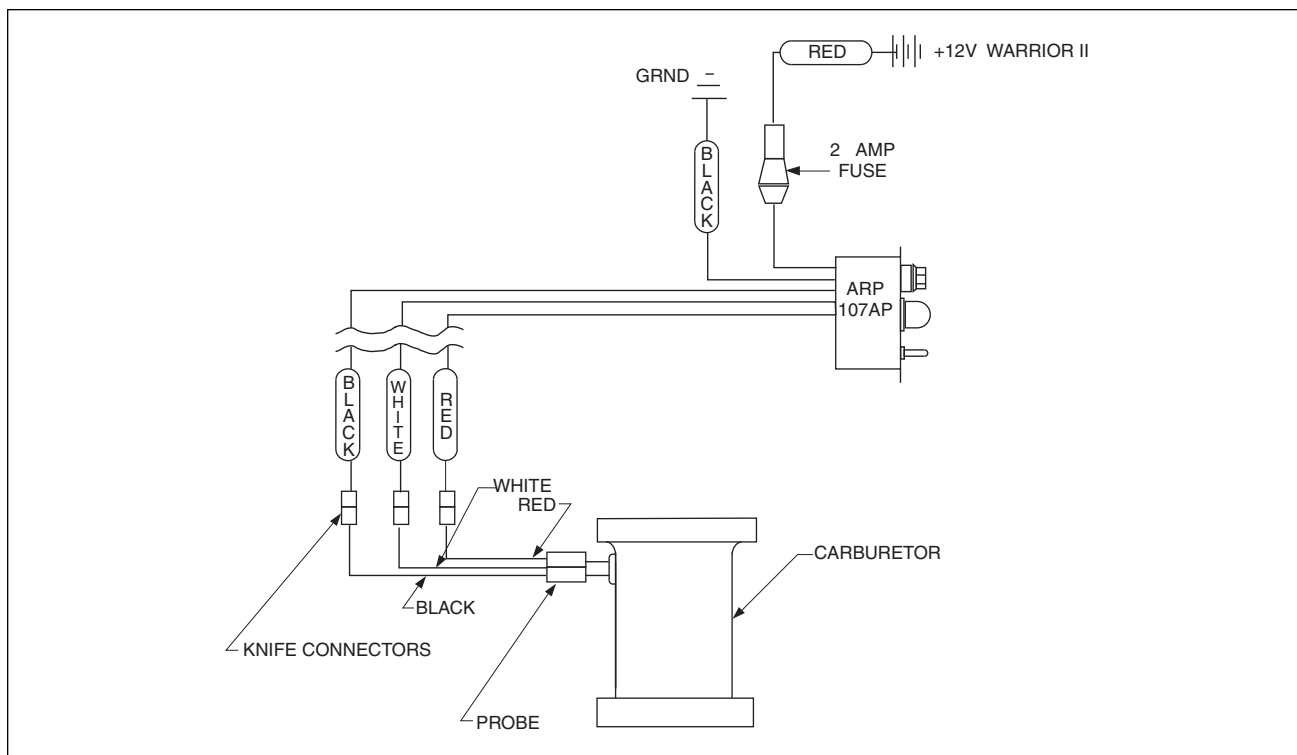

Figure 8-35. Warrior II Ice Detection System
- a. To test Warrior II and III probes: (Refer to Figure 8-35.)